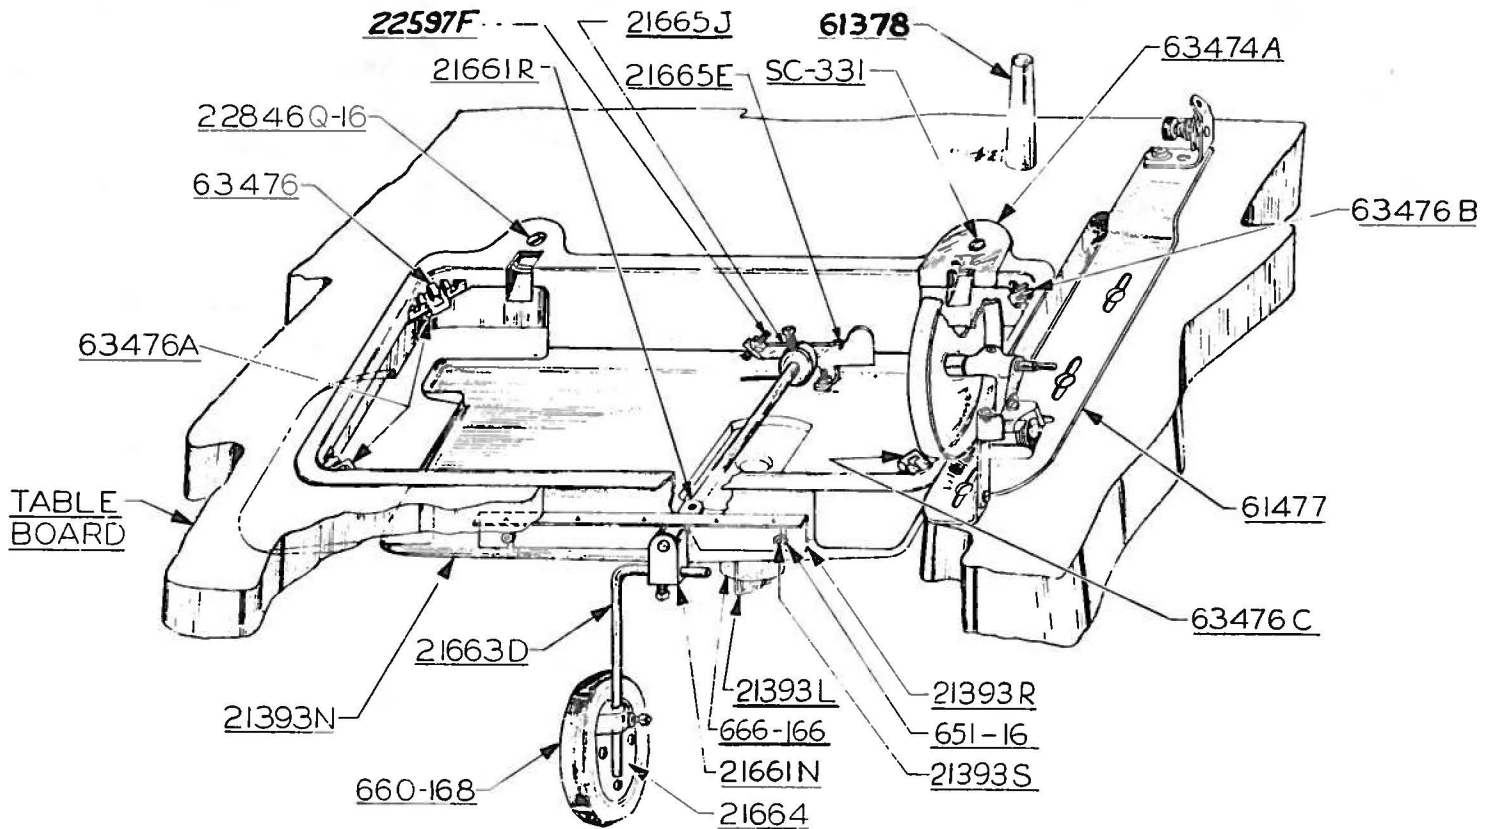

Fig. 1A
- (a) On a suitable tableboard, turn right side up place machine mounting frame (21393 N) in the machine cut-out with the hinge lugs to the rear (Fig. 1A). Insert the countersunk wood screw through left hinge pad and tighten securely. Assemble bed positioning spring (63474 A) over right hinge pad; insert round head wood screw and tighten securely. Assemble the retaining plate (21393 R) to outside front of pan section, as shown, and snug up nuts lightly (Fig. 1A).
- (e) Tip the machine back against the rest pin, and assemble the knee press assembly as shown. All end play of the cross shaft should be taken up by the cone bearings, but must not bind (Fig. 1A).